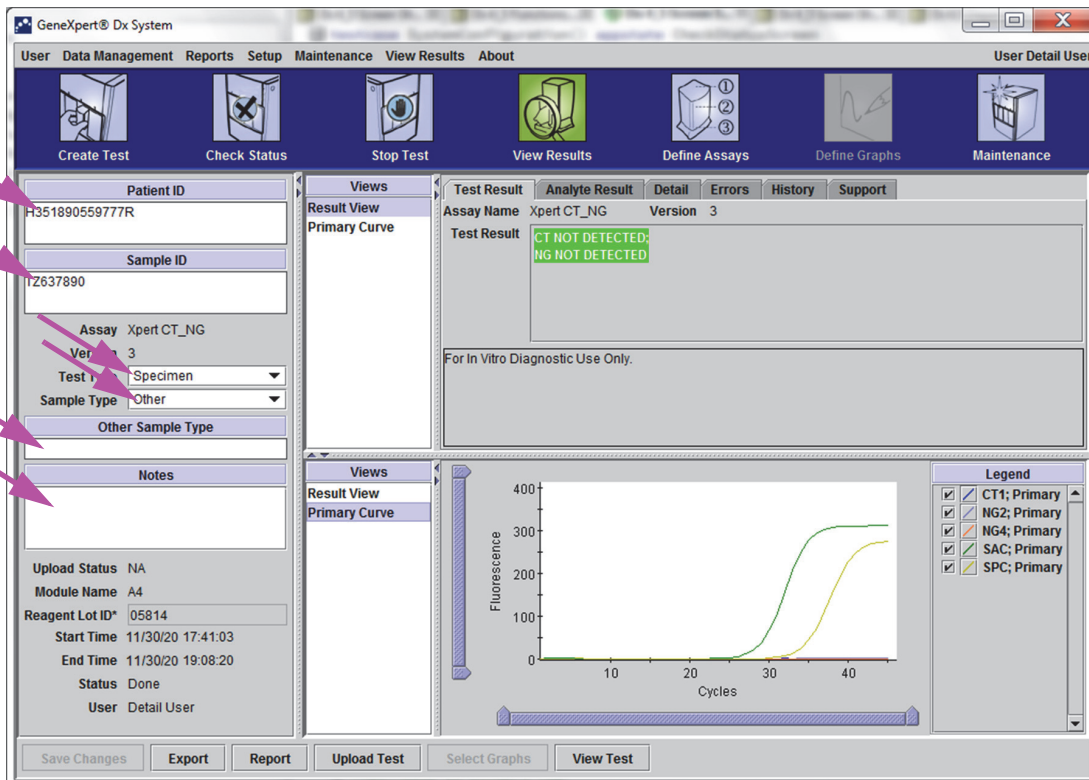

Figure 5-38. GeneXpert Dx View Results Window (Detail Users and Administrator View)
For each test, you can edit the Sample ID, Test Type, Sample Type, Other Sample Type, and Notes. To do this, in the View Results window (see Figure 5-38), edit the Sample ID, Test Type, Sample Type, Other Sample Type and Notes (see Figure 5-38). Sample IDs cannot include the following characters: | @ ^ ~ & / : * ? " < > ' \$ % ! ; () -.
1. In the GeneXpert Dx system window, click **View Results** on the menu bar. The **Test Result** tab is displayed. See Figure 5-38.